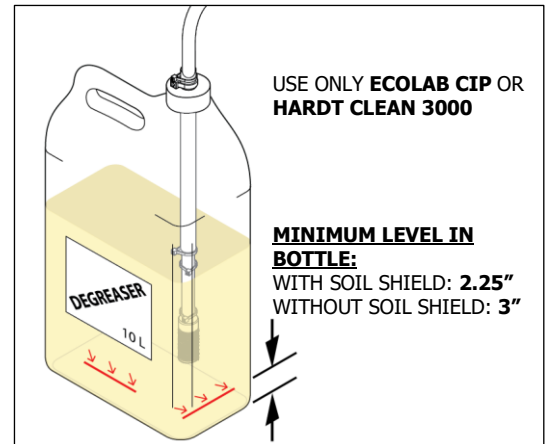

Figure 5-1
1. Check that the level of degreaser is enough to run the Auto Clean cycle as shown in Figure 5-1